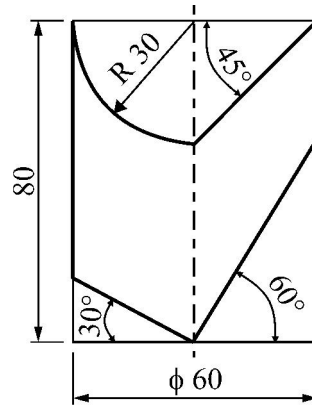

Fig. No. 3
- (a) Draw the development of lateral surface of the cylinder as shown in Fig. No. 3.